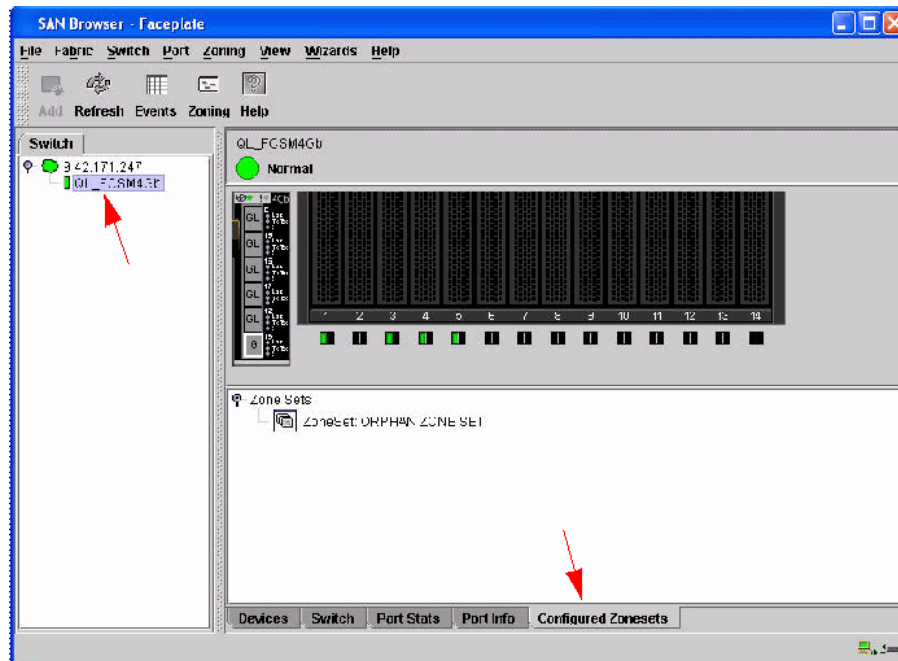

Figure 7-18 SAN Browser - Faceplate window
- From the Faceplate, select the **Configured Zoneset** tab (Figure 7-18). Verify there are not zones configured on the switch. If there are zones configured, see the manufacturer user's guide for instructions on how to remove the zone set and zones.